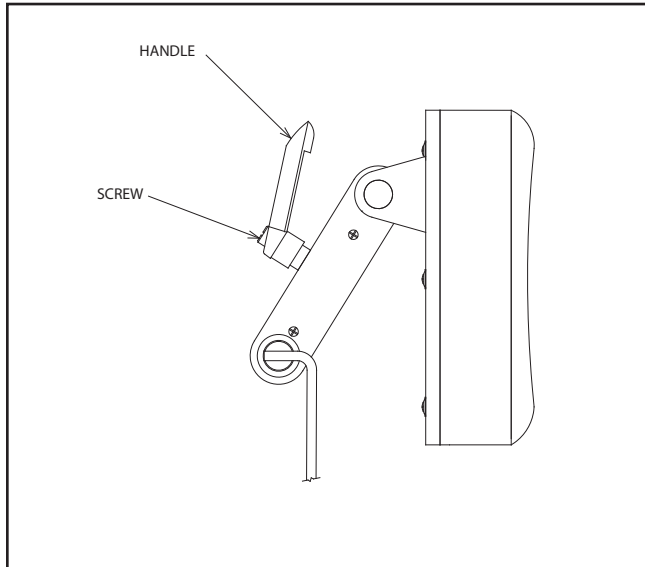

FIGURE 6
3.9.7.1 A single handle on the rear of the C6 headrest controls the locking mechanism. To unlock, grasp the handle and turn counter-clockwise. Change the tilt of the headrest until it is in the desired position. To lock, turn the handle clockwise until snug. (See Figure 6)
3.9.8.1. The handle on the outermost knob can be adjusted to any preferred, locked position. Simply push in on the large screw while pulling out on the handle. Rotate as desired, and release. (See Figure 6)